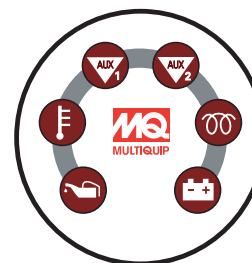

Figure 16. Indicator Lights
5. Turn the ignition key clockwise to the **ON** position. The Aux1, Aux 2, Coolant Temp and Oil Indicator lamps will light for 10 seconds (Figure 16). The Charge Indicator lamp will remain lit until the engine starts.